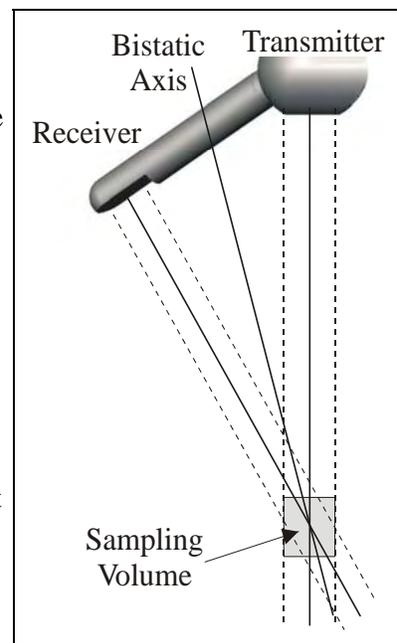

Figure 33 – Bistatic Axis
- The bistatic axis is halfway between the transmit and receive beam axes (see Figure 33).